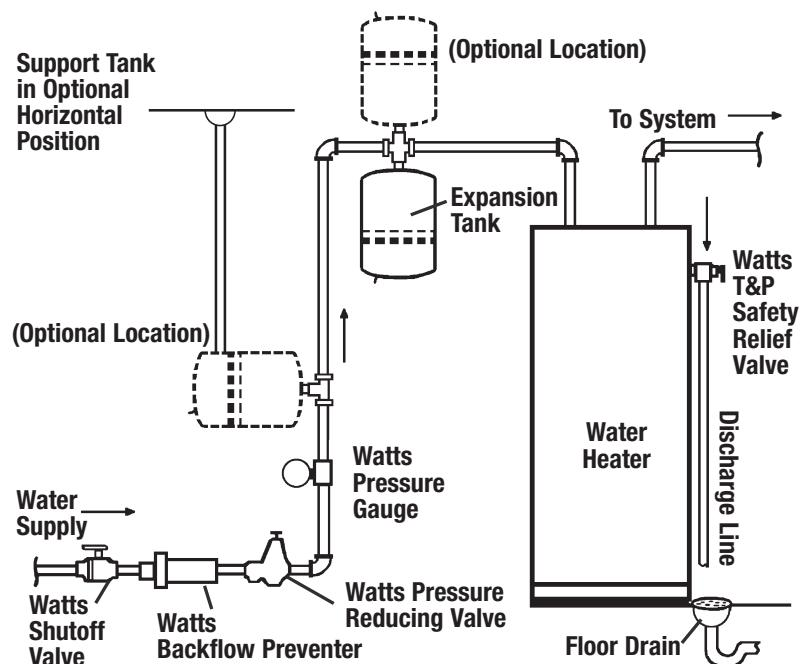

Figure 1
- c. Read the system pressure at the pressure gauge (Figure 1).